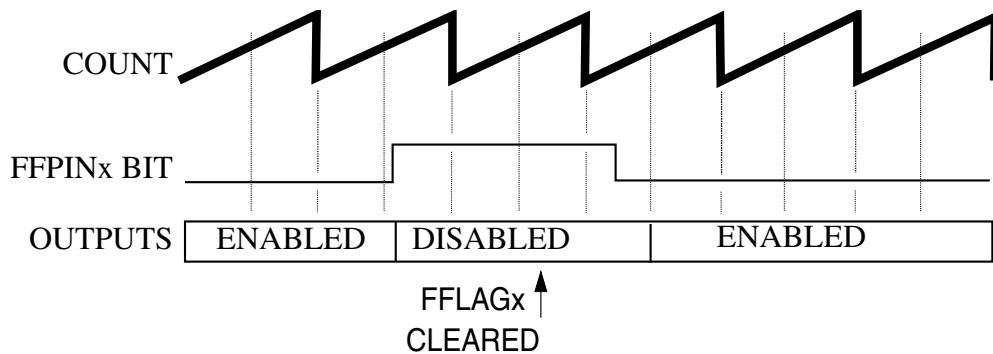

Figure 114. Manual fault clearing (FCTRL[FSAFEx] = 1, FSTS[FHALFx] = 1)
- The filter detects a logic zero on the FAULT_x pin at the start of the next PWM full or half cycle boundary, as shown in Figure 114. If FSTS[FFULL_x] is set, then the disabled PWM pins are enabled at the start of a full cycle. If FSTS[FHALF_x] is set, then the disabled PWM pins are enabled at the start of a half cycle.